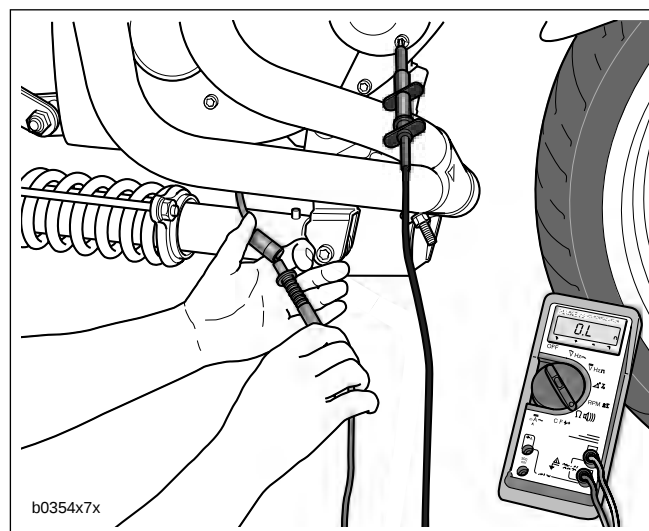

Figure 7-24. Test for Grounded Stator (Typical)
2. See Figure 7-24. Connect an ohmmeter.